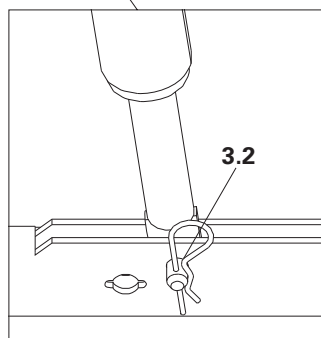

Fig. A2.12
- Always attach the Kicker Brace in the drilled hole (3.2). (Fig. A2.12)